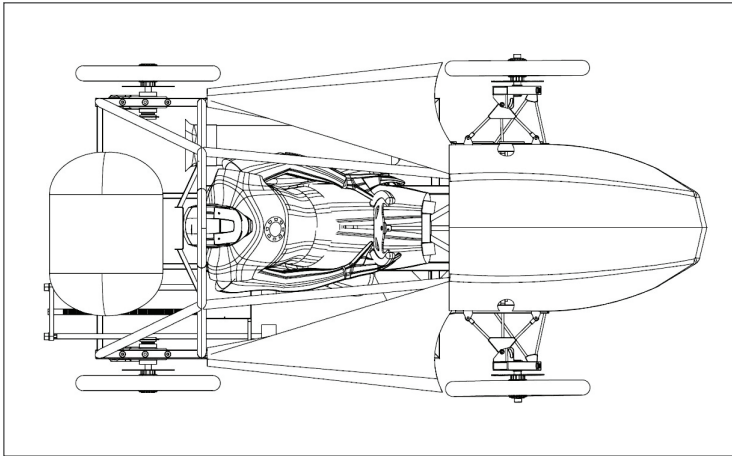

Figure 12 Placement of the car on the board
- a. Driver with his vehicle have to stand on a tiltable board (Figure 12.). Under the vehicle wheels there is a glued emery cloth with 80 grit size.